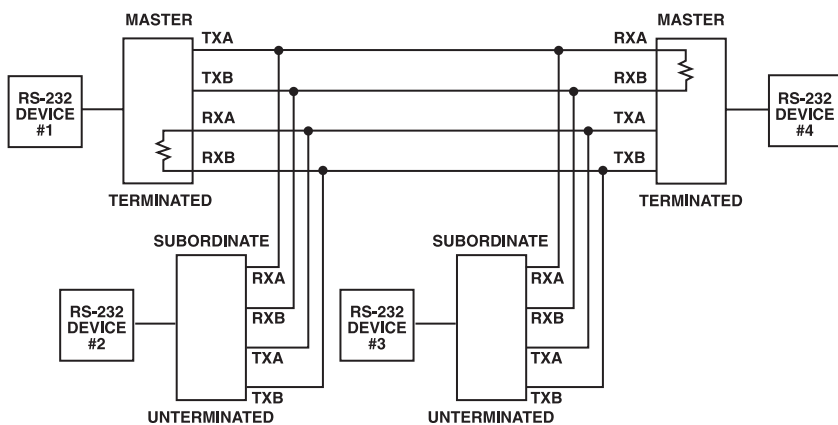
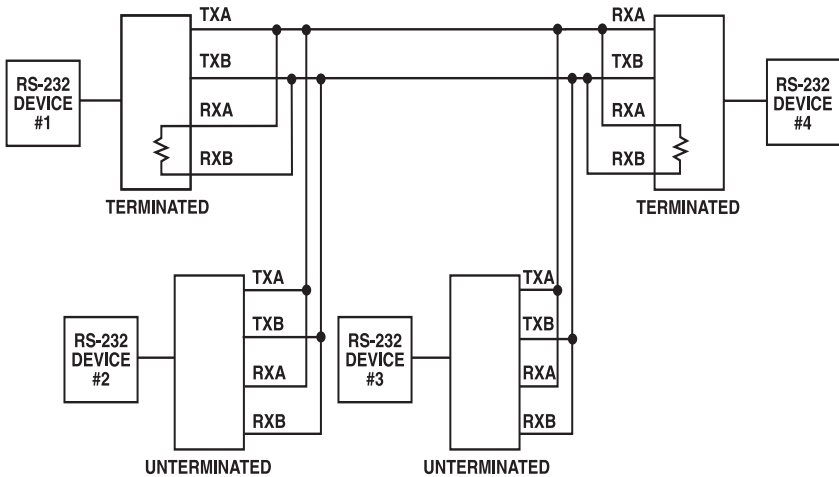

Figure 7. Multipoint, 4-Wire (Half- or Full-Duplex).
Figure 8. Multipoint, 2-Wire (Half-Duplex).
Figure 7 shows a typical multipoint, 4-wire, full- or half-duplex connection. Figure 8 shows a typical multipoint, 2-wire, half-duplex connection. In the multipoint applications depicted in Figures 7 and 8, the devices at the extreme opposite ends of the installation are terminated by setting switch S2 to the TERM position. These devices are the two devices that have the greatest cable length between them, not necessarily the devices that are physically located the farthest apart. (See Figures 7 and 8.) A resistor shown in the circuit indicates that the termination resistor has been selected via switch S2. Note that although Figures 7 and 8 show only four RS-232↔485/422 Converter devices networked together, up to 64 units can be connected in the manner shown in Figure 7, and up to 32 units as shown in Figure 8.
5. Connect the RS-232↔485/422 Converters together via a 4-wire twisted-pair cable (see Figure 7).